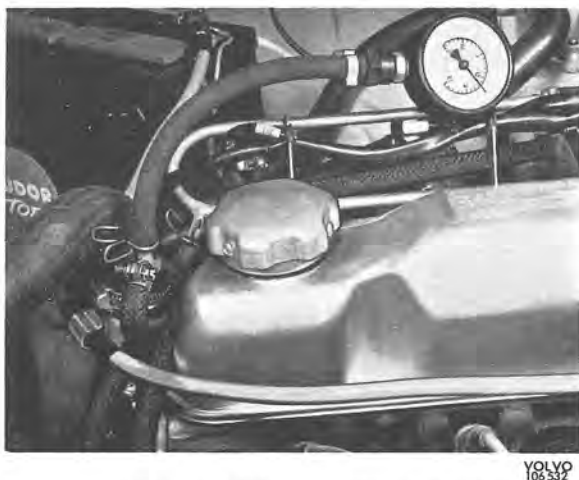

Fig. 2-140. Connecting pressure gauge
2. Connect up a pressure gauge according to Fig. 2-140.